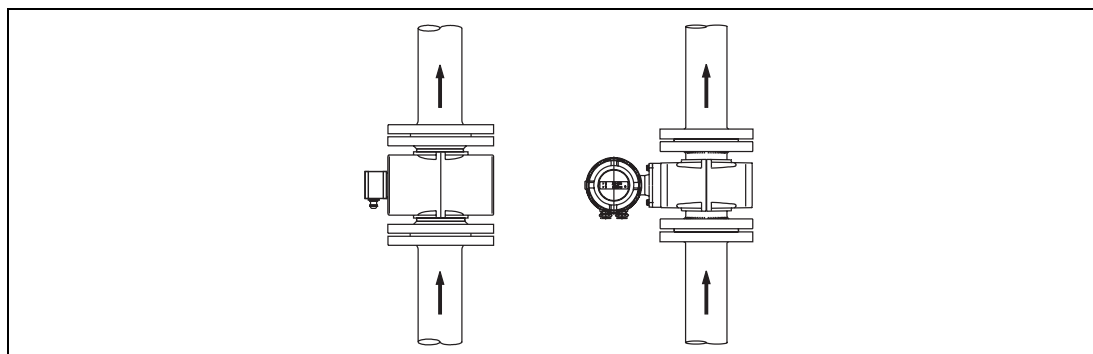

Fig. 10: Installation in a Vertical Pipeline
- Install vertically for abrasive fluids, flow upwards through flowmeter, max. 3 m/s see Fig. 10